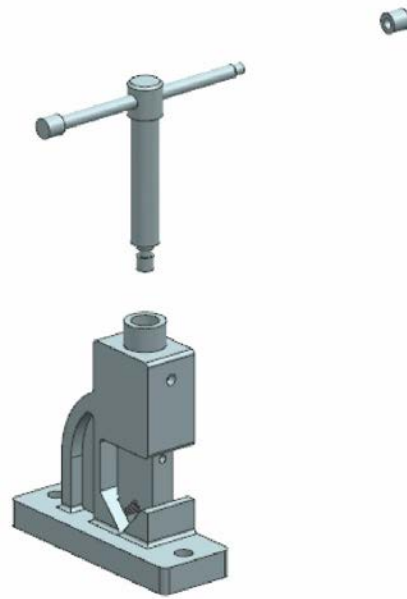

Figure 9-51 The assembly after exploding the Handle Screw
5. Choose the **OK** button from the **Edit Explosion** dialog box to exit it. The resulting exploded view of the assembly is shown in Figure 9-51.